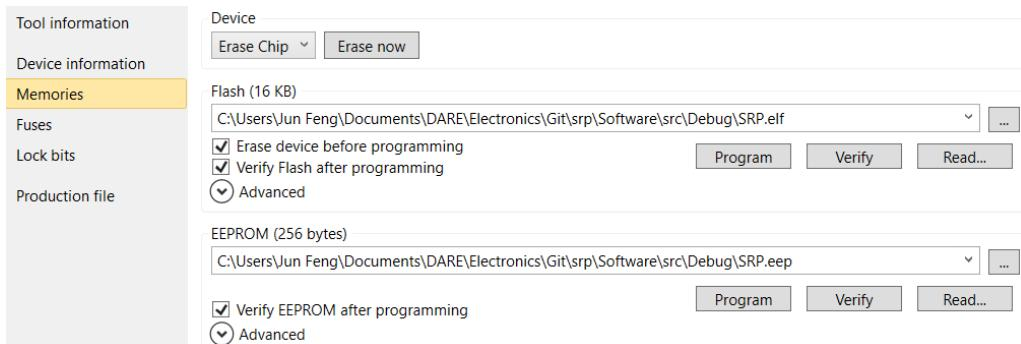

Figure 13: Memories tab in the device programming menu.
8. Click on the *Memories* tab and ensure that all *Erase device...* and *Verify...* boxes are ticked. The selected flash file should be the .elf-file that was generated when you built the firmware. Likewise, the selected EEPROM file should be the .eep-file from the same directory as the .elf-file. See Fig. 13.